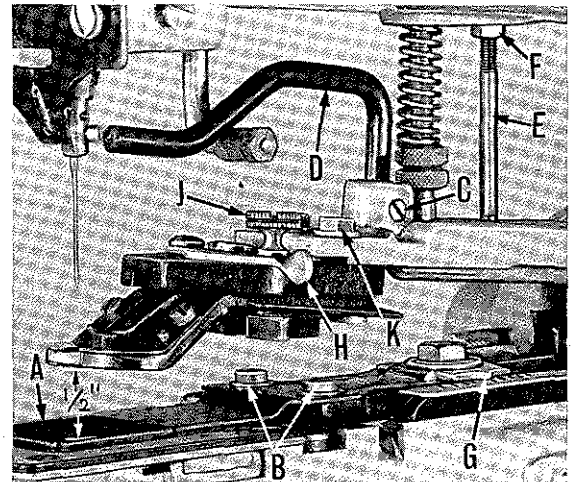
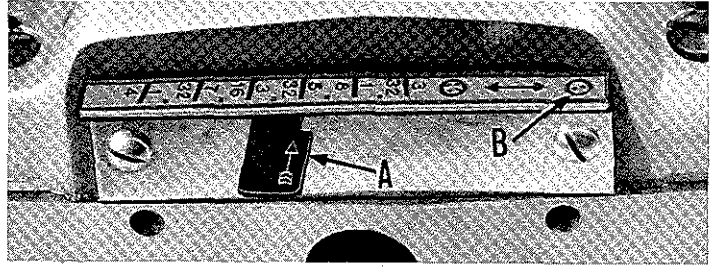

Fig. 7
Fig. 11
Make sure that the feed plate (A, Fig. 7) is set so that it does not interfere with the needle at any point of its travel.
With the machine in stop position, the normal distance between the bottom of the button clamp to the top of the feed plate should be  $1/2$  inch (Fig. 7). To make this adjustment, loosen set screw (C), and raise or lower rod (D).
Return the machine to stop position, and check the position of the button clamp stop pin (E, Fig. 7). Its purpose is to prevent overthrow of the button clamp so that the needle will not strike the button or any other part of the button clamp. Insufficient clearance between the stop pin and the button clamp holder will cause the machine to re-cycle. Too much clearance will cause the button to strike the needle.
The stop pin, corresponding to (E, Fig. 7), should be set only as low as necessary to drop the feed plate holder off the latch when the machine has reached stop position.
Accurately measure the distance between the holes of the button, and set the pivot indicator (G, Fig. 7) and spring indicator (A, Fig. 11) to the graduations corresponding to the distance between the holes in the button.
With the machine in stop position, insert the button in the jaws of the clamp, and adjust the stop lever (H, Fig. 7) by means of screw (J) so that the button is held loosely by the jaws.
Set pivot indicator (G, Fig. 7) to proper graduation on scale corresponding to distance between holes of button, and set spring indicator (A, Fig. 11) on circle with two dots at left end of scale (B). Continue with adjustment of button clamp the same as for four hole buttons.
When sewing two hole buttons from back to front on Styles 200-6, 200-7, set pivot indicator (G, Fig. 7) and spring indicator (A, Fig. 11) to the proper graduations on scales, corresponding to distance between holes of button. Push in the lever located under the spring indicator (A, Fig. 11). This lever is not illustrated.